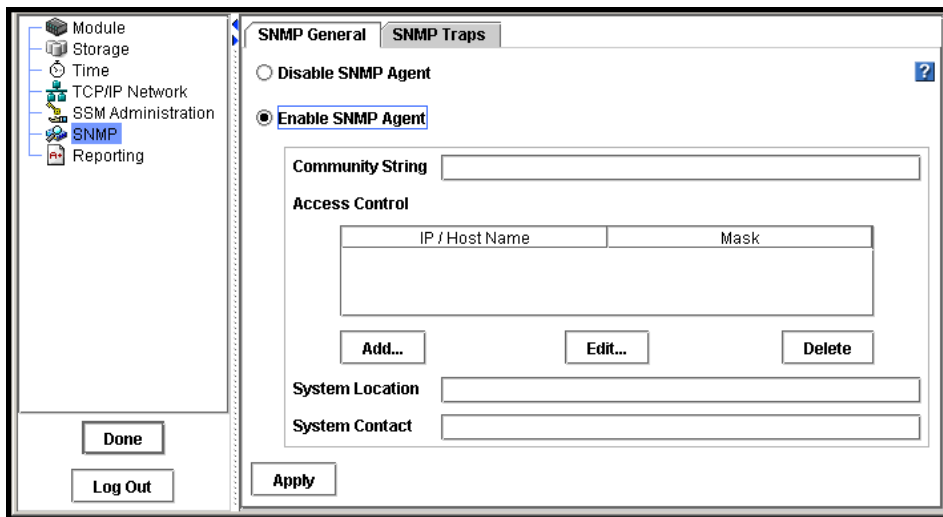

Figure 113. Enabling the SNMP Agent
3. Click Enable SNMP Agent. The Enable Agent fields become activated, shown in Figure 113.